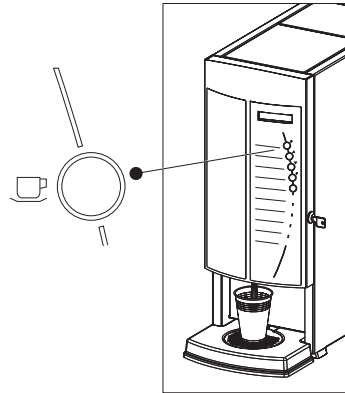

Fig. 29
1. Place an empty cup under the outlet (fig. 29).